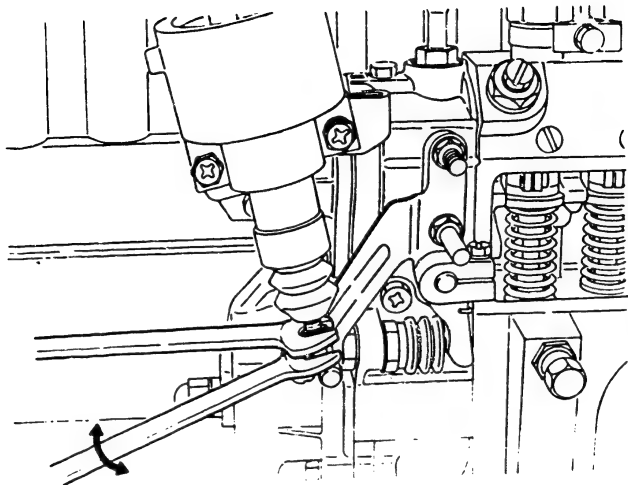

Fig. 79 Temporary adjustment of cap
8. Loosen the cap and then screw in until it just contacts the control lever pin. (Fig. 79)